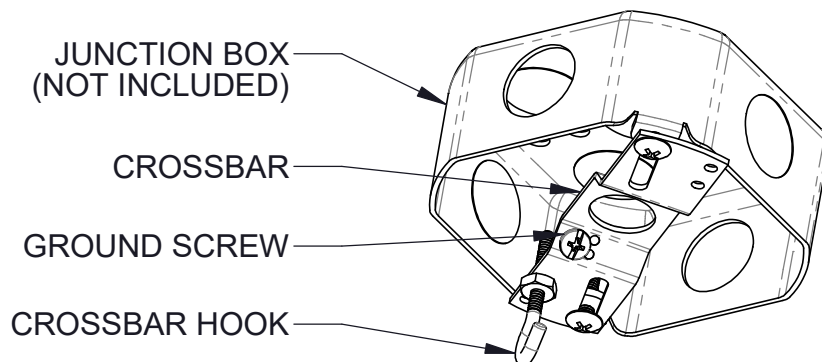
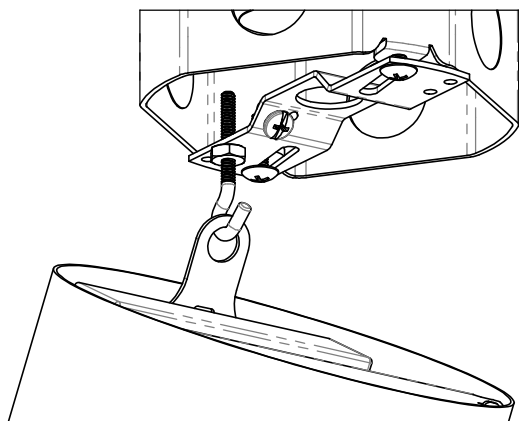

FIGURE 5. JUNCTION BOX, CROSSBAR, GROUND SCREW, AND CROSSBAR HOOK (GREEN)
FIGURE 6. 5B CANOPY MOUNTED TO CROSSBAR HOOK
3. ATTACH THE CANOPY CROSSBAR (**FIG. 5**) TO A CEILING JUNCTION BOX WITH TWO SCREWS (SUPPLIED BY OTHERS).
4. FASTEN THE POWER WIRES (**FIG. 5**) FROM THE JUNCTION BOX TO THE FIXTURE WIRES. YOU MAY USE THE SUPPLIED CROSSBAR HOOK TO HOLD THE FIXTURE IN PLACE WHILE COMPLETING WIRING CONNECTIONS (**FIG. 6**).